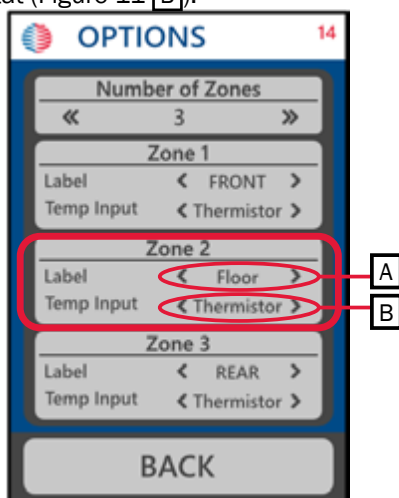

Figure 11
3. Set the zone label to “Floor” (Figure 11 **A**).
4. Choose the correct temperature input: thermistor or thermostat (Figure 11 **B**).